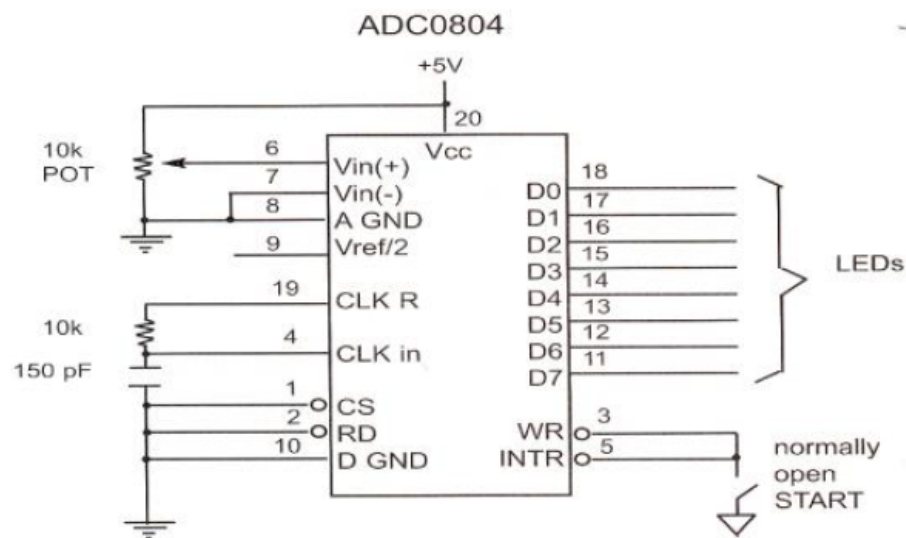

Figure 5.2: ADC0804 test circuit for free-running mode.
- Connect the ADC0804 as shown in Figure 5.2 for free-running mode.
- Vary the input signal from 0 to 5 V using the 10 k Ω potentiometer shown in Figure 5.2 as the ADC's input. The input must not exceed 5 V.
4. Compare your hardware result with the value calculated using Equation (1).
1. Use the circuit from Figure 5.2, modified as follows.